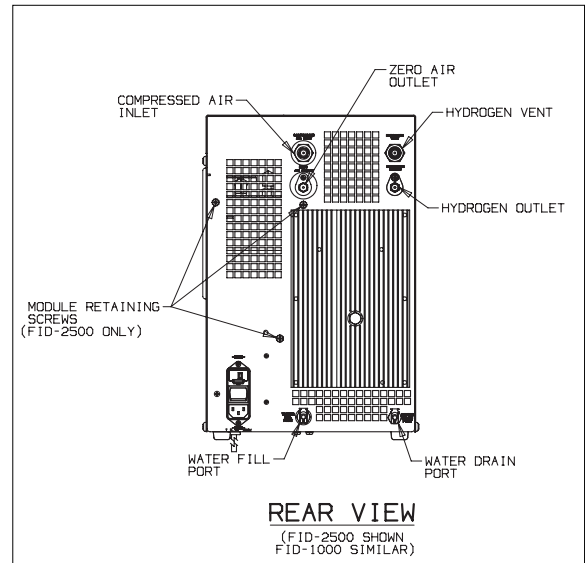

Figure 17 - Rear View (FID-2500 shown, FID-1000 similar)
- Remove connections to inlet and outlet air ports at the rear of the generator (figure 17).
- Remove 3 fasteners holding the catalyst assembly module at the rear of the generator – See figure 17 for FID 2500 or figure 187 for FID 1000.